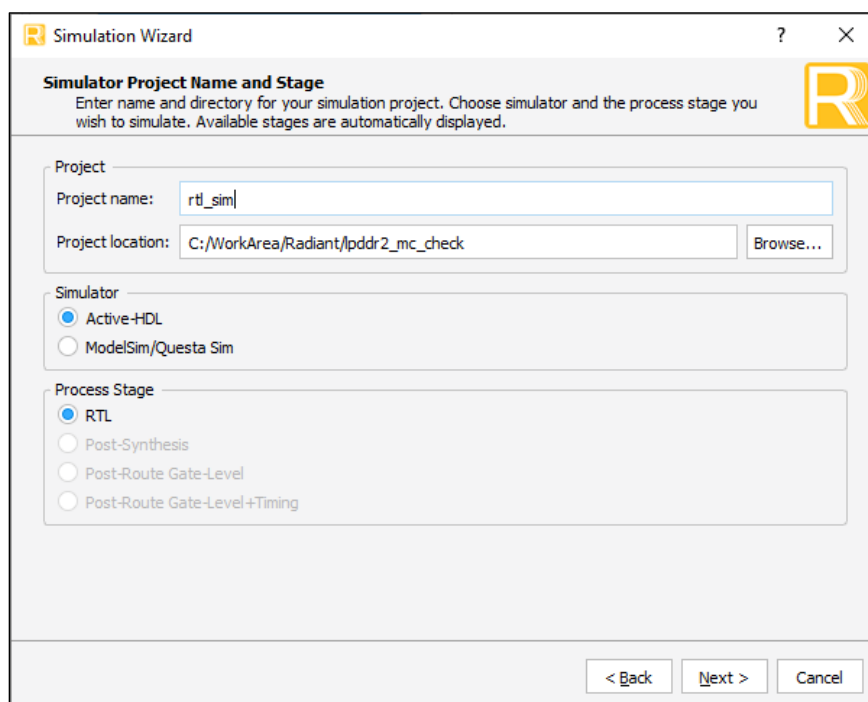

Figure 3.4. Simulation Wizard
- Click the  button located on the **Toolbar** to initiate the **Simulation Wizard** shown in Figure 3.4.